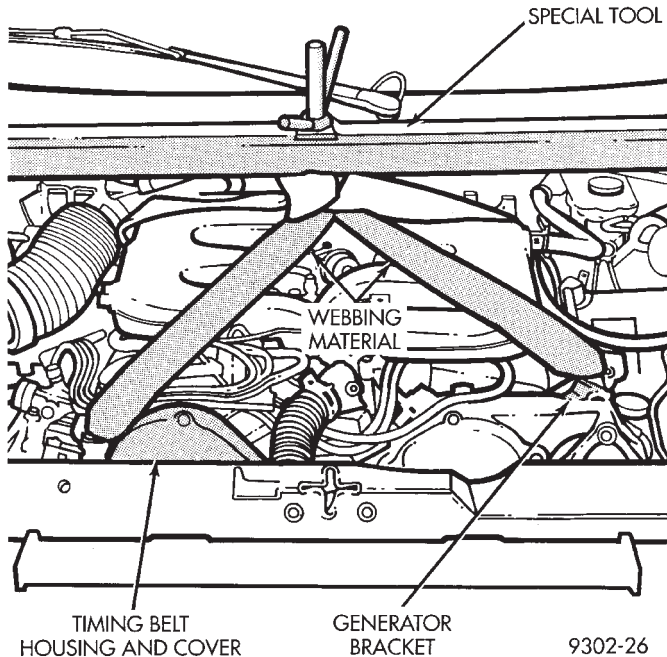
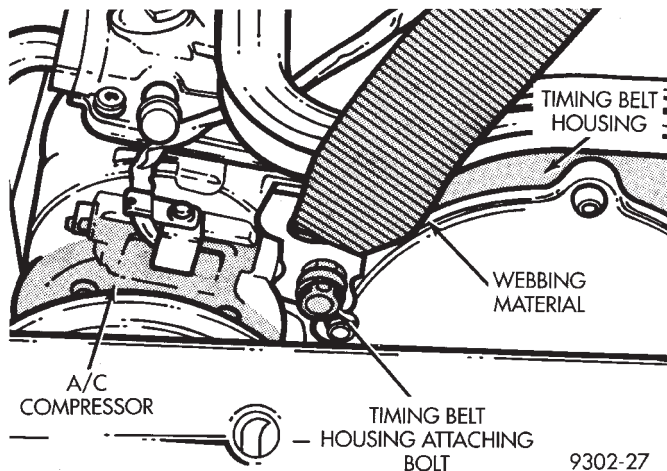

Fig. 41 Engine Supporting Fixture Installed 3.5 Ltr.
Fig. 42 Engine Support Attachment To Timing Belt Housing
(1) Mount Fixture, Engine Support Special Tool 7137 or equivalent across engine compartment (Fig. 41). Using nylon webbing material such as seat belt material or equivalent, mount it to the following locations on the engine.
(2) Remove bolt attaching timing belt housing to front of engine assembly (Fig. 41) and (Fig. 42). Install webbing material hook on timing belt housing attaching bolt, install bolt and tighten (Fig. 42).
(4) Mount remaining pieces of webbing material to back of right and left cylinder head using the threaded hole on back of cylinder heads. Using a bolt of the correct thread size and length, install webbing hook on bolt. Then install bolt into threaded hole on back of cylinder heads and tighten bolt.
(5) Securely attach pieces of webbing material to hook on engine holding fixture (Fig. 41). Tighten hook on engine holding fixture until all slack is removed from all 4 pieces of webbing material.